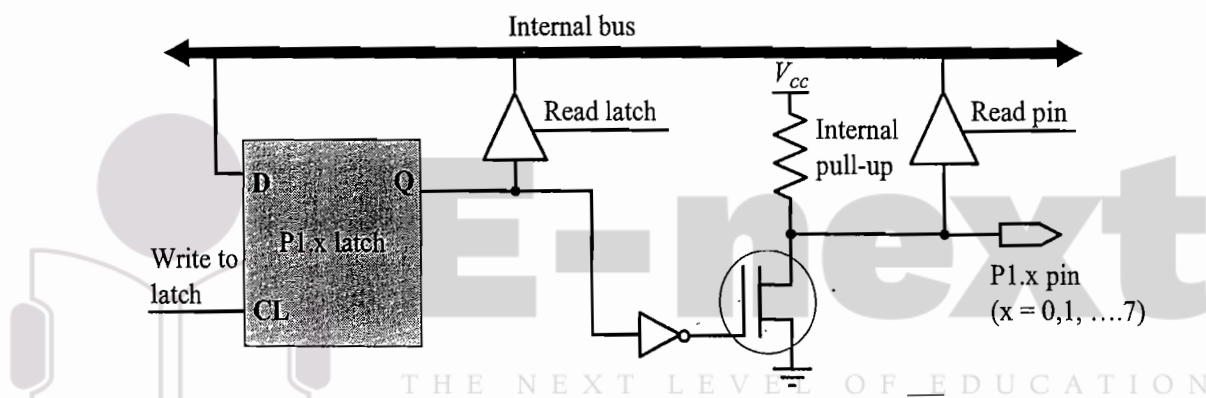

Fig. 5.11 Port 1 pin organisation
5.3.5.2 Port 1 PORT 1 is a bi-directional port which is used as a general purpose I/O port. The Port 1 pin organisation is given in Fig. 5.11.